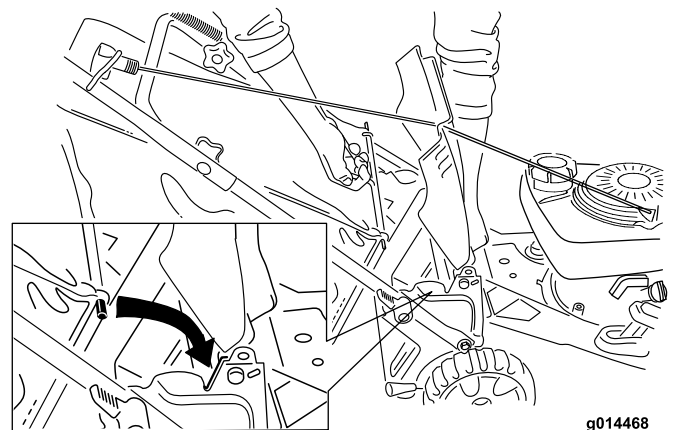

Figure 17
2. Raise and hold up the rear deflector, install the bag in the notches, and lower the rear deflector (Figure 17).